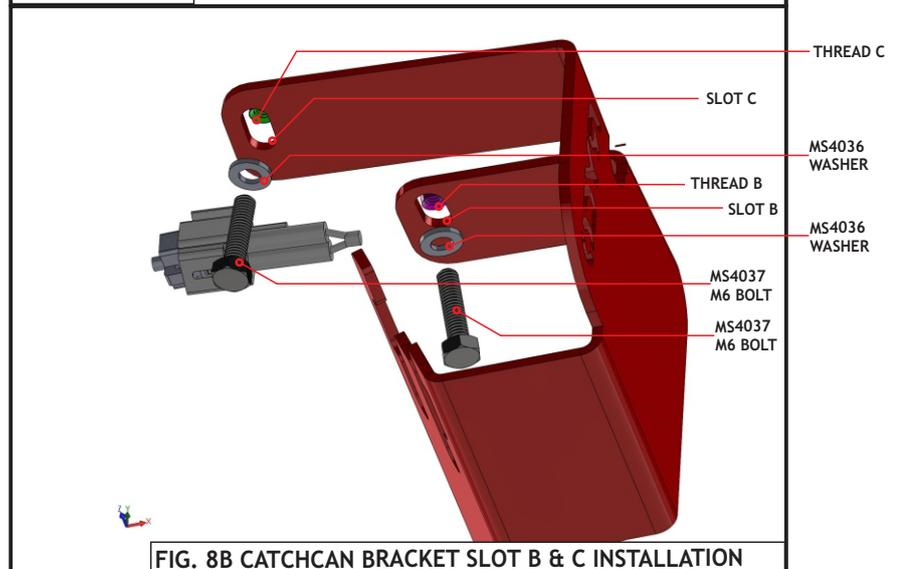

FIG. 8B CATCHCAN BRACKET SLOT B & C INSTALLATION
4. Align Slot B & C on the bracket with the threaded holes on the side of the engine bay. Install the supplied 2 x MS4037 M6 bolts with supplied 2 x MS4036 M6 washers. Refer to FIG.8B & 8C.